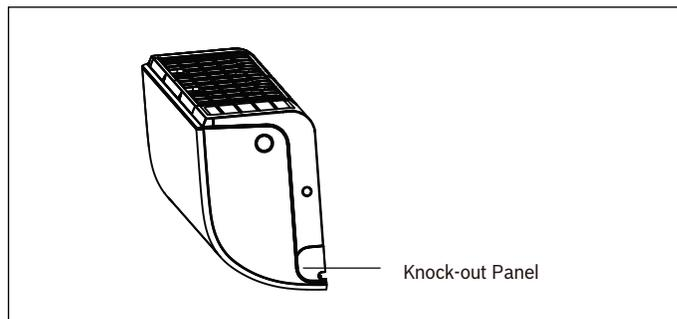

Figure 14
2. If the wall hole is behind the unit, keep the knock-out panel in place. If the wall hole is to the side of the indoor unit, remove the plastic knock-out panel from that side of the unit. (See Fig. 14). This will create a slot through which your piping can exit the unit. Use needle nose pliers if the plastic panel is too difficult to remove by hand.